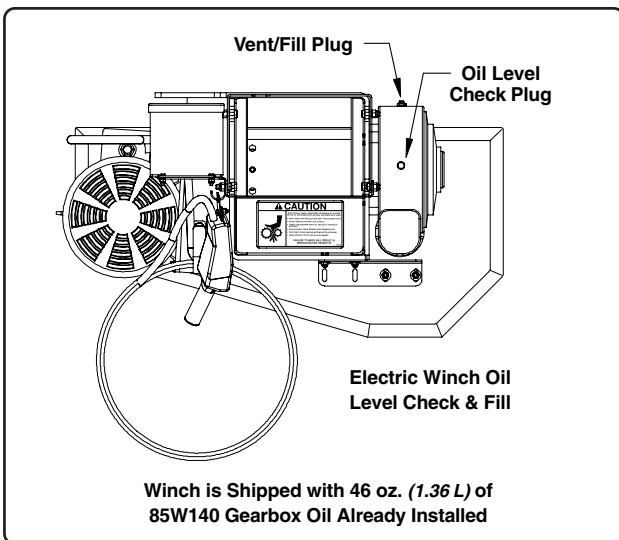

Fig. 12
2. Remove the plug from the side of the gearbox as shown in Fig. 12, oil should begin to leak from the opening. If it does, oil level is sufficient, reinstall plug.